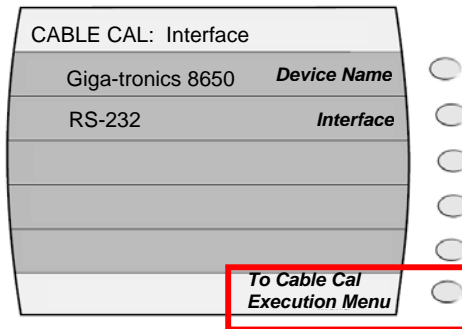

Figure 10
- Press the “To Cable Cal Execution Menu” softkey. See figure 10.